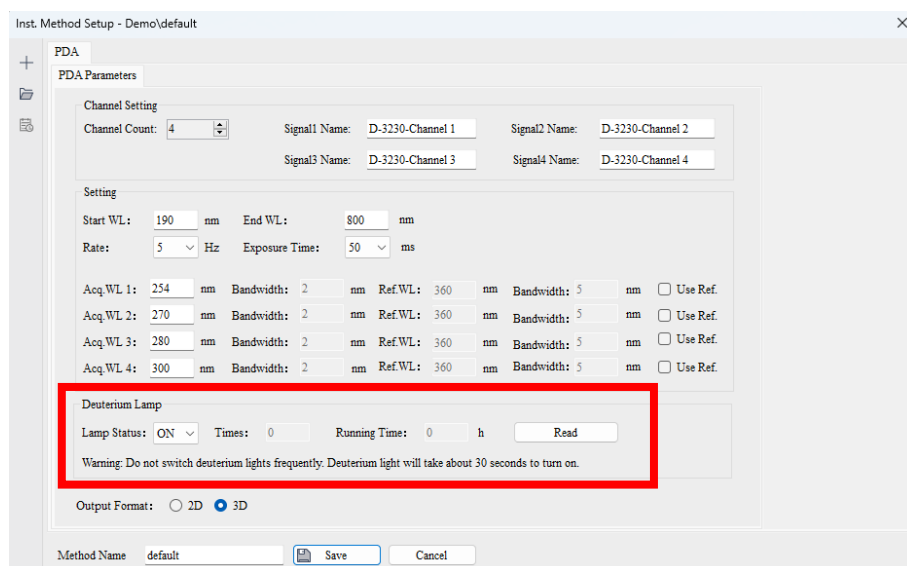

Fig.3-52 Setting light source status
- 2) In the "Instrument Method Settings" page, select the "PDA" TAB, you can set the light source status (on or off) in the "PDA Parameters" page, as shown in the red box in Fig. 3-52.